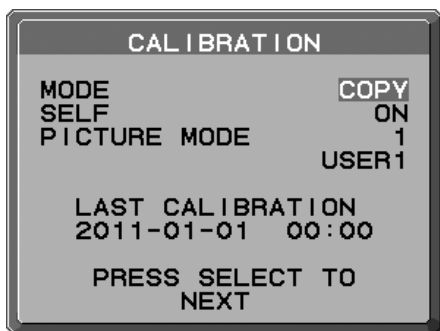

Figure C.3
- Using “LEFT” or “RIGHT” of Display B, select COPY in the MODE selection (Figure C.3).